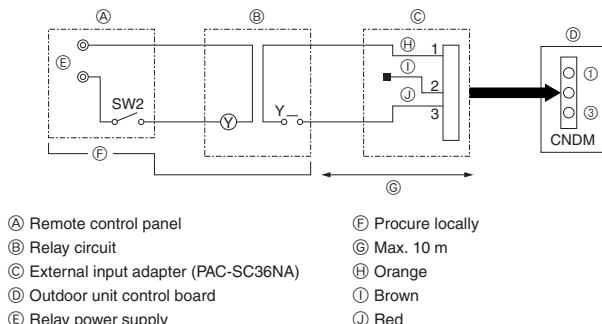

Fig. 9-2
① Complete the circuit as shown when using the external input adapter (PAC-SC36NA). (Option)
9.2. Demand function (on-site modification) (Fig. 9-2)